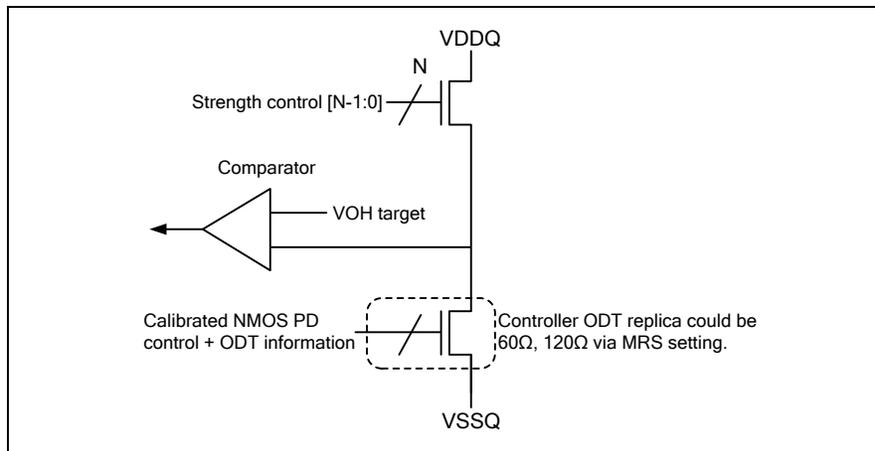

Figure 165 - Pull-up calibration
2. Then calibrate the pull-up device against the calibrated pull-down device. (Figure 165.)